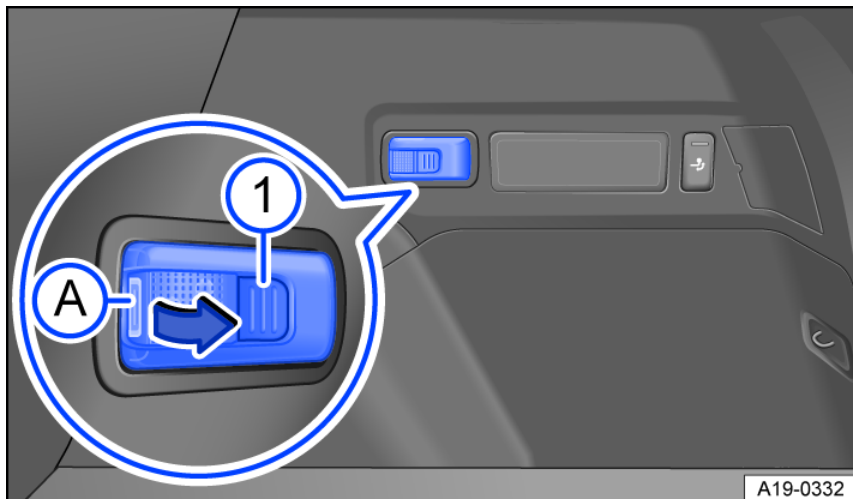

Fig. 166 In the luggage compartment (right-side): Removable luggage compartment light.
Depending on the vehicle equipment, there is a removable light in a bracket in the luggage compartment *fig. 166*.
- Take hold of the removable luggage compartment light in the *fig. 166* **A** area.
- Press the *fig. 166* **1** button to switch on the light. The light will switch on at full brightness.
- Depending on the design, press the *fig. 166* **1** button again to set the brightness to 50%.
- Press the *fig. 166* **1** button again to switch off the removable luggage compartment light.
Switch off the removable luggage compartment light and push it into the bracket in the opposite direction to the arrow *fig. 166*.
- Remove the battery cover with a thin object below the *fig. 166* **A** area.